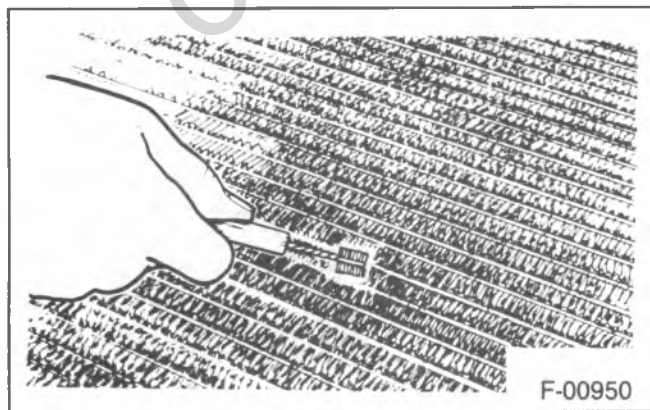

Figure 29—Cleaning the Repair Area with A Steel Brush
4. Brush the area to be repaired with the small steel brush that is supplied in the kit and blow dust away from the repair area (figure 29).